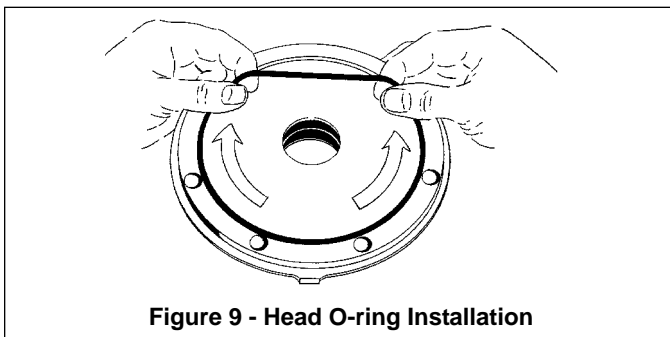

Figure 9 - Head O-ring Installation
5. Install a new head O-ring (72) in the groove on the inside face of the head (20). Lay the O-ring flat and start in on one side of the groove, stretching ahead with the fingers, as shown in Figure 9.
6. Carefully install the head assembly (20) on the pump casing (12). Rotate the head so that the drain hole, located at the back of the bearing cavity, faces downward when the pump is mounted for operation and the disc relief hole is located at the intake port. Install and uniformly tighten four head capscrews (21) 90° apart, torquing to 30 lbs ft (47 Nm).
7. Hand pack the ball bearing (24) with grease. Refer to the "Lubrication" section for the recommended grease.
8. Install the bearing (24) into the head recess. The bearing balls must face outward, with the grease shield inward. Ensure the bearing is fully and squarely seated in the head (20).
10. Remove the vanes (14) and push rods (77) from the rotor and shaft assembly (13). Inspect for wear and damage, and replace as follows:
- b. Partially install the non-driven end of the rotor and shaft (13) into the open side of the pump casing (12).